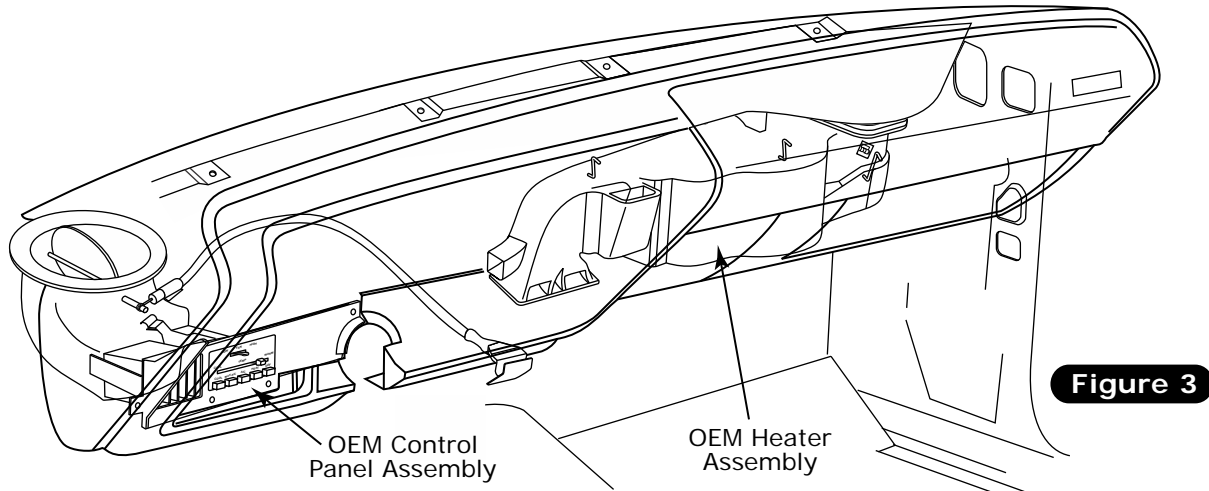

Figure 3
1. To ease installation, loosen the top (4) dash mounting bolts located in the defrost ducts along the bottom side of the windshield, as well as the (2) side dash mounting bolts.
2. Pull dash away from windshield to remove (4) OEM defrost duct mounting screws (See Figure 3, below).
1. Remove the OEM heater assembly from under dash as shown in Figure 3, below.
2. Remove the OEM control panel assembly from dash as shown in Figure 3, below.